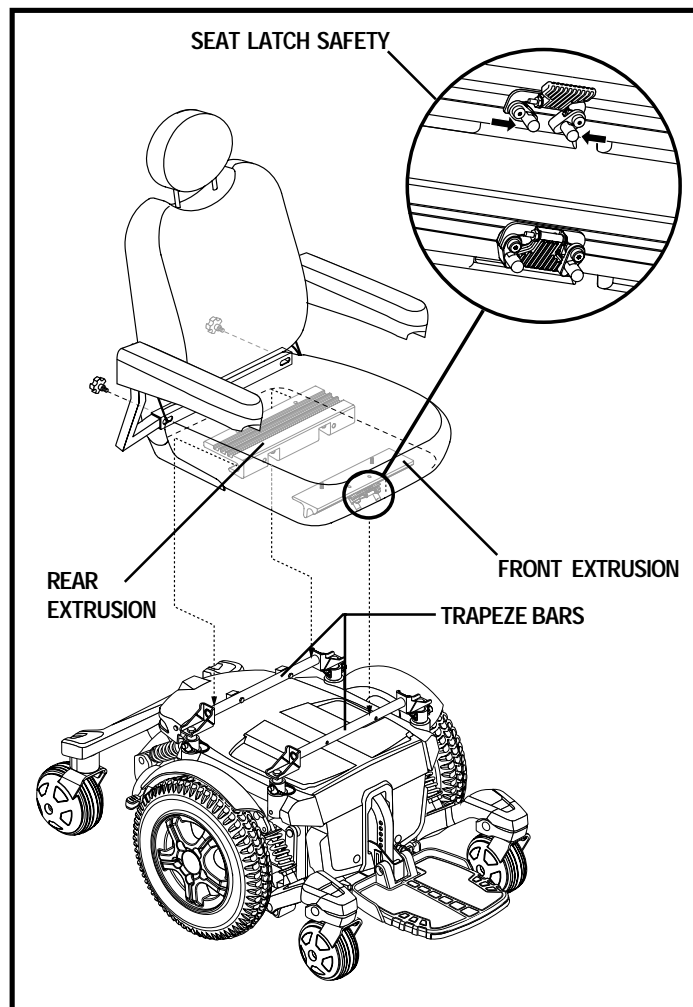

Figure 11. Universal Mounting System and Contour Seat
It may be necessary to install the seat either prior to initial operation or after transporting your power chair. Contour seats are attached to the power base with the Universal Mounting System (UMS). The UMS consists of universal parts that may be attached to the seat, regardless of seat width or seat depth. The two main components are aluminum extrusions mounted to the seat base. These extrusions attach to a pair of trapeze bars that are mounted to the power base. See figure 11.
1. Tilt the seat back and slide the rear extrusion onto the rear trapeze bar. See figure 11.
5. Flip up the seat latch safety. See figure 11.